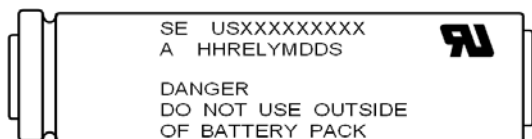
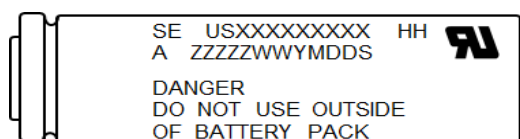

Fig.1
Fig.2
6.2 Model Name (Fig.1, Fig.2 : USXXXXXXXXX) 登録機種名 (Fig.1, Fig.2 : USXXXXXXXXX)
6.3 Factory (Fig.1, Fig.2 : A for factory code) 製造所 (Fig.1, Fig.2 : A)
【Fig.1】 K : Tohoku Murata Manufacturing Co.,Ltd. Koriyama Plant.
【Fig.2】 SG or G : Murata Energy Device Singapore Pte. Ltd.
6.4 Specification (Fig.1, Fig.2 : HH for Cell Type) 仕様 (Fig.1, Fig.2 : HH)
6.5 Lot Number (Fig.1, Fig.2: YMDDS for Manufacturing Date of Cells)
ロット、セル製造年月日 (Fig.1, Fig.2 : YMDDS)
Lot Number (Fig.1, Fig.2: YMDDS for Manufacturing Date of Cells)
6.8 Warning Message (Fig.1, Fig.2)